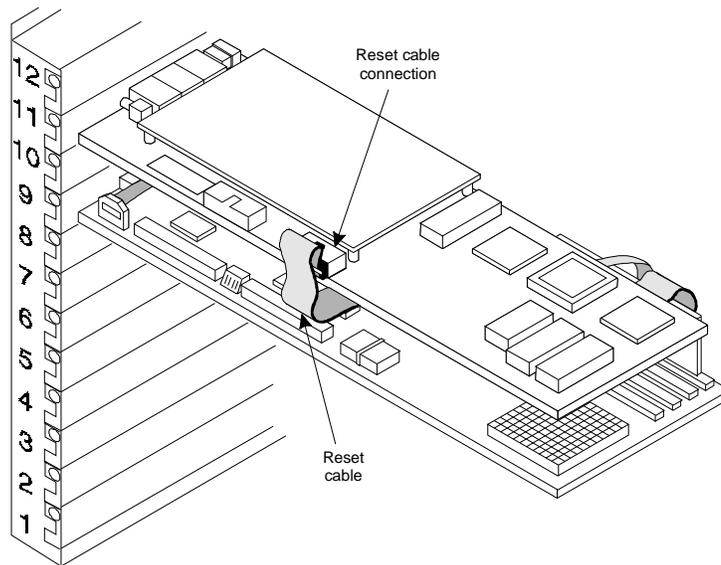

Figure 9-31. Remote Maintenance Circuit Card Installed and Cabled in the MAP/40
5. Attach the reset cable to the Remote Maintenance circuit card as shown in Figure 9-31.